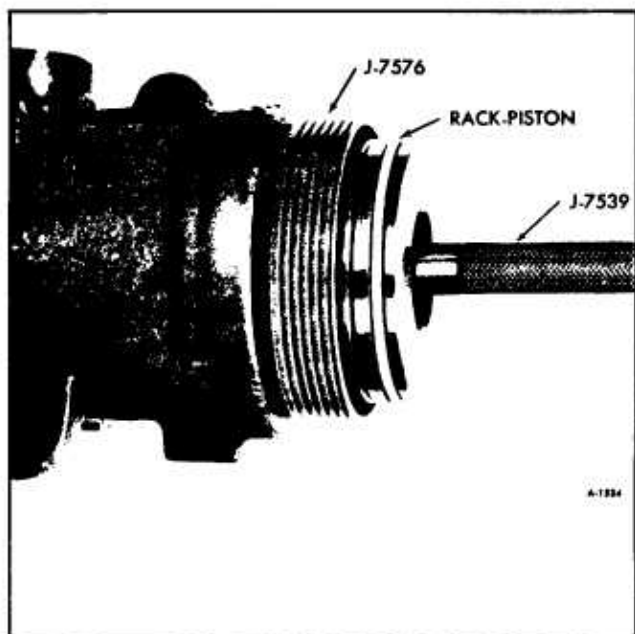

Figure 52—Installing Rack-Piston
- c. With Ball Retainer J-7539 in place in the rack-piston, push the rack-piston (with teeth toward pitman shaft opening), into the housing until Tool J-7539 contacts the center of worm (figure 52).